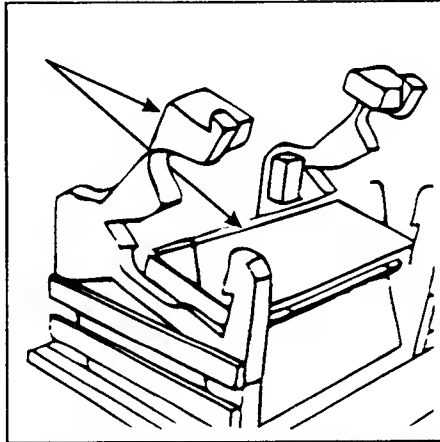

Figure 2-10. Remove Wire Form. Step e.
- e. On the top of the sound shroud, pull the foam on either side of the wire form outward and carefully lift out the wire form (Figure 2-10).